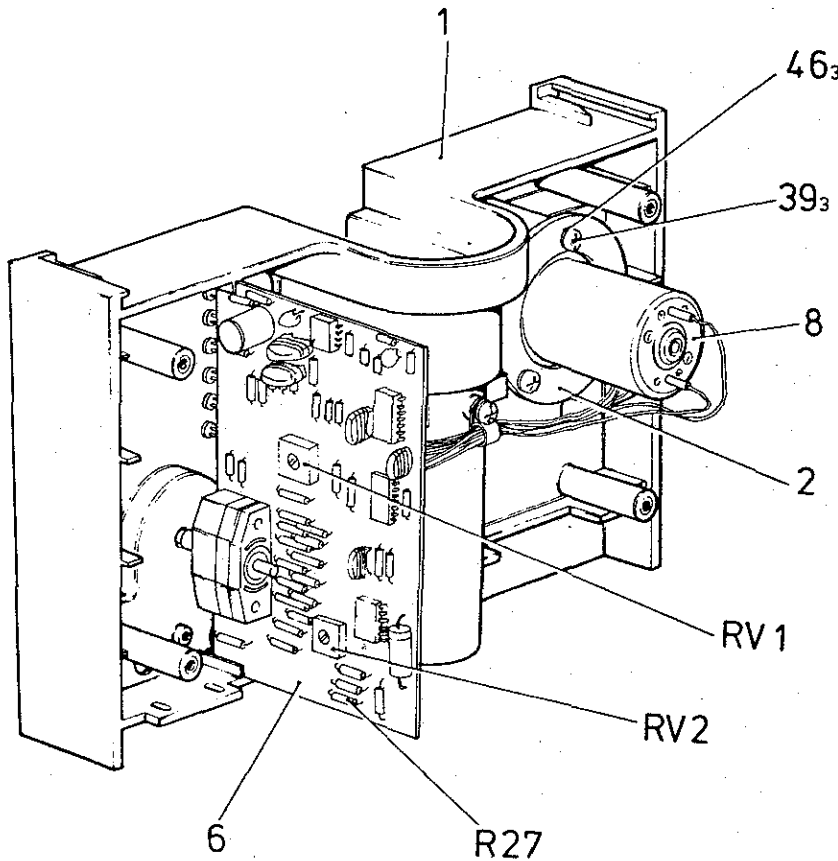

Fig. 12
Refer to Figure 12. Check that the motor current is below 20 mA by measuring the voltage across resistor R27 on the printed circuit board (item 6) (4.7 ohms). The voltage across R27 should be 94 mV maximum.
Check the rotor head speed with a stopwatch. The speed should be one revolution of the rotor head in 50 seconds $\pm$ 2 seconds. Adjust RV2 for corrections. (Refer to Figure 12, page 19.)
Check the rotor head speed with a stopwatch. The speed should be one revolution of the rotor head in 4 seconds $\pm$ 0.1 seconds. Adjust RV1 for corrections. (Refer to Figure 12, page 19.)